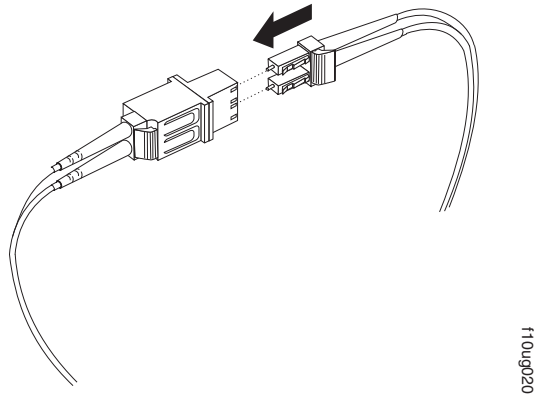

Figure 46. Connecting an LC-LC cable into the LC-SC cable adapter
4. Carefully insert the other end of the LC-LC cable into the LC connector end of the LC-SC cable adapter as shown in Figure 46 on page 57. Push in the connector until it clicks into place.